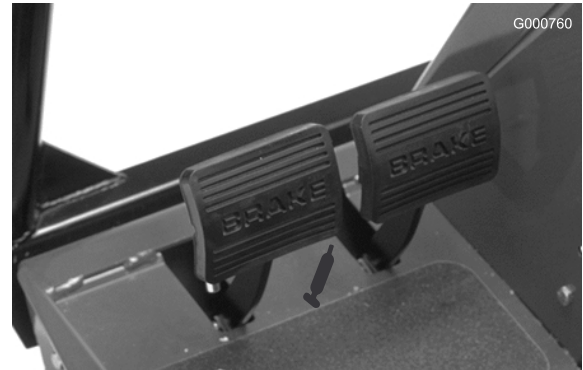

Figure 49
- Brake pedal shaft (1) (Figure 49)